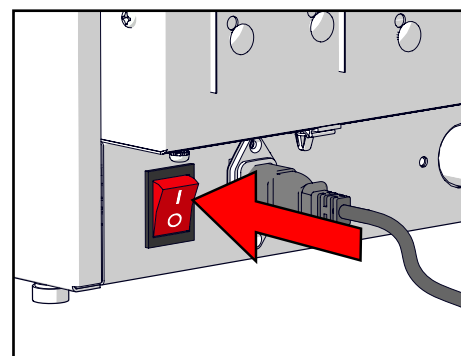

Figure 11.
7. Turn the machine on with the mains switch (see Figure 11).